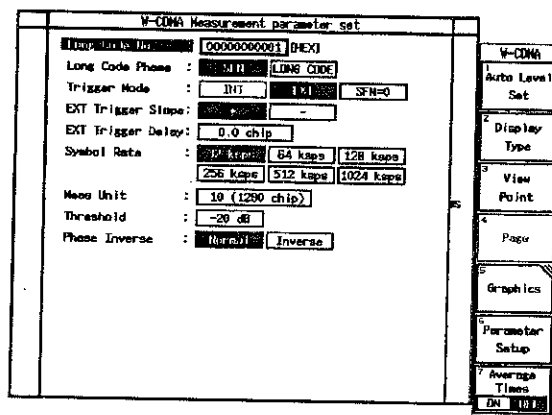

Figure 3-25 Setting of Parameter for W-CDMA Measurement Test
6. On the R3267/3273, set the parameter referring Figure 3-25.